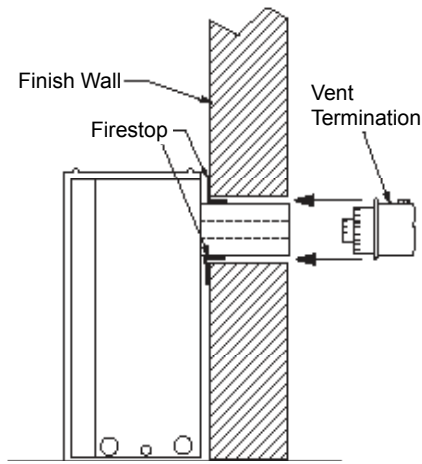

Figure 31 –
4. Attach the termination cap to the exterior wall using four (4) screws provided.
5. Guide the venting through the vent hole as you place the appliance in its installed position. Guide the 4" (102 mms) and 6 5/8" (168mm) collar of the vent termination into the outer ends of the venting. Do not force the termination. If the vent pieces do not align with the termination, remove and realign the venting at the appliance flue collars. *Figure 31* Attach the termination to the wall as outlined in the instruction sheet supplied with the termination.